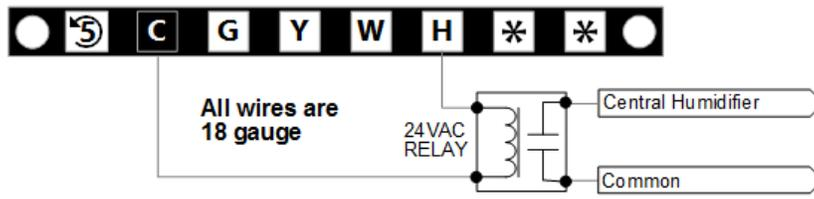

Figure 17 – Connecting to a dry contact-controlled humidifier with the use of a relay.
- **Relay-controlled equipment.** In cases where a device must be controlled through dry contacts – as is often the case with humidifiers – a relay (not supplied) must be added, to be activated by the 24-VAC signal sent by the corresponding terminal and whose “normally open” and “common” contacts will connect to the dry contact terminal of the device in question (Figure 17).